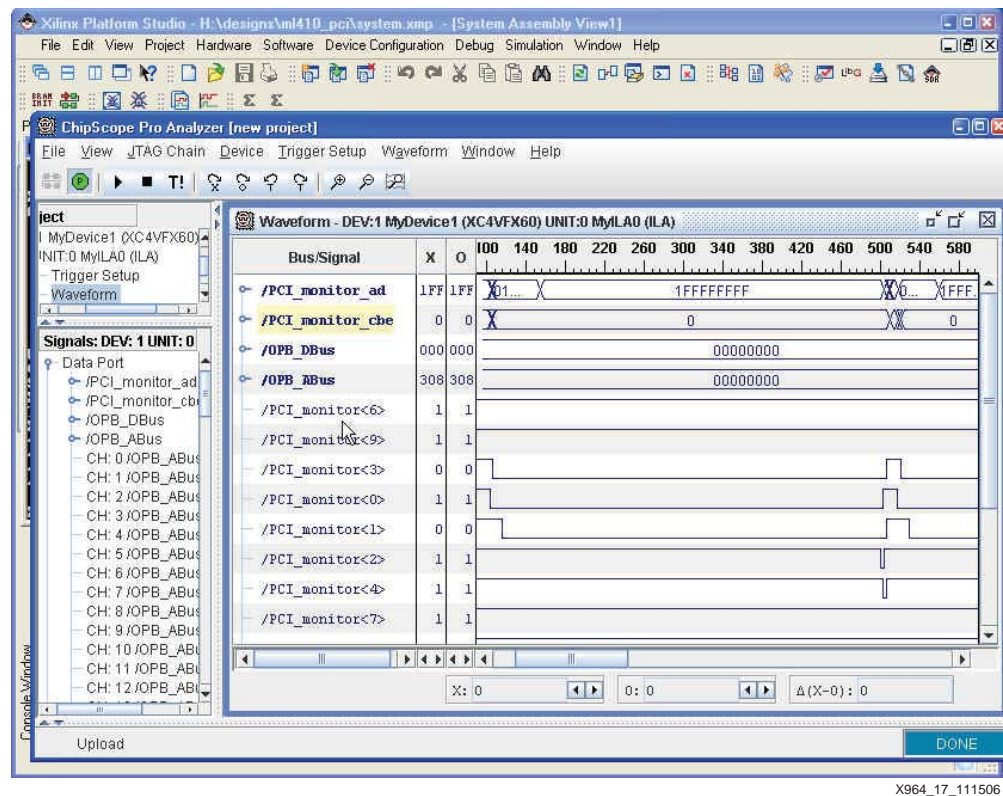

Figure 17: ChipScope Analyzer Results
13. ChipScope results are analyzed in the waveform window, as shown in Figure 17. This figure shows the original PCI_monitor<*> signals and the PCI_monitor_ad signal generated in Step 10. The waveforms may be easier to read if the discrete PCI_monitor<*> signals are removed after they are renamed. To share the results with remote colleagues, save the results in the waveform window as a Value Change Dump (vcd) file. The vcd files can be translated and viewed in most simulators. The **vcd2wlf** translator in Modeltech reads a vcd file and generates a wlf file for viewing in the Modeltech waveform viewer. The vcd file can be opened in the Cadence Design System, Inc. Simvision design tool by selecting **File** → **Open Database**.